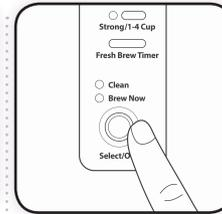

Figure 21
- 15 Prior to making a second pot of coffee, turn the coffeemaker off. This will reset the Fresh Brew™ Timer. To turn the coffeemaker off, press the Select/Off button once and all lights will turn off. (Figure 21)